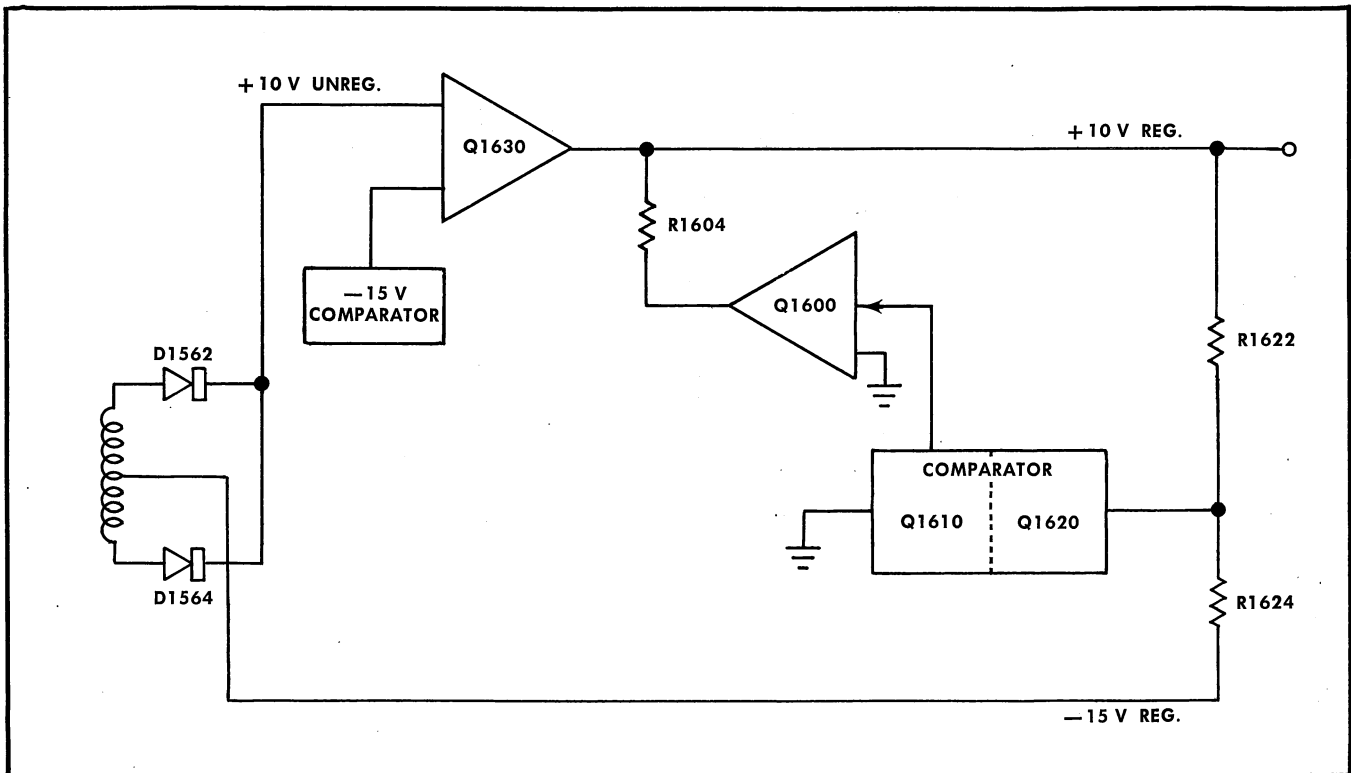

Fig. 3-20. Simplified block diagram of regulated +10 volt supply.
-15 V supply. The current through the shunt regulator Q1600 is controlled by the Comparator consisting of Q1610 and Q1620. The current through the Comparator is determined by the voltage developed across R1622 and R1624. If the +10 V supply tries to go more positive, the base of Q1620 becomes more positive. This increases the conduction of Q1620 and decreases the conduction of Q1610. The collector of Q1610 goes positive, turning Q1600 on harder. As Q1600 increases conduction, the current through R1622 and R1624 is reduced and the +10 V supply returns to +10 volts. Q1600 effectively reduces the impedance of the +10 V supply. Fig. 3-20 is a simplified diagram of the +10 volt supply.